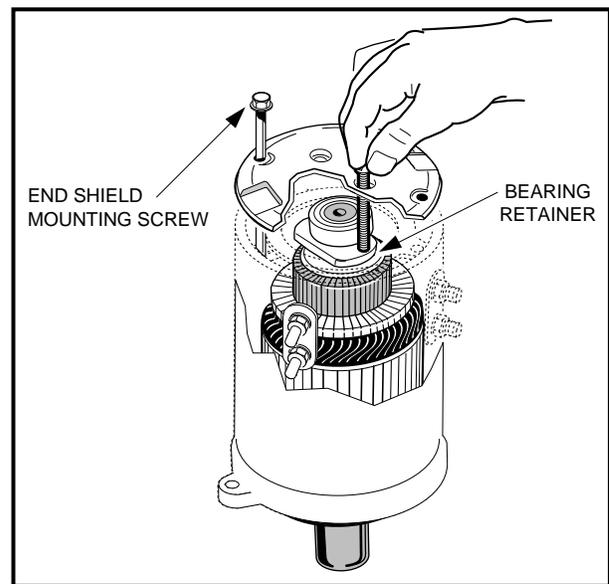

Figure 15-16 End Shield Installation
- USE A LONG SCREW WITH THE SAME THREAD SPECIFICATIONS AS THE MOUNTING SCREWS TO MAINTAIN HOLE ALIGNMENT WHILE STARTING THE FIRST MOUNTING SCREW. **SEE FIGURE 15-16, PAGE 15-11.**